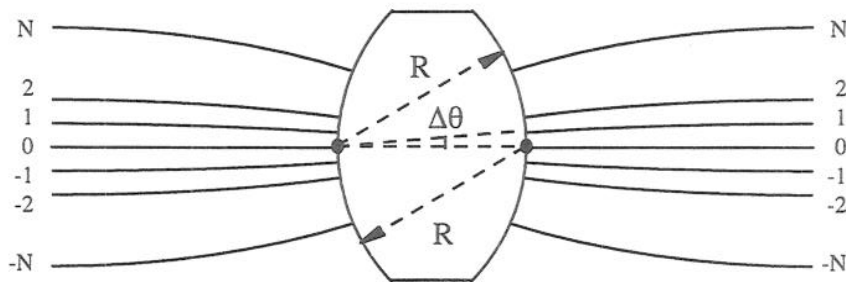

Figure 3.
4. Figure 3 shows a radiative star, which consists of a symmetric array of  $2N+1$  input and  $2N+1$  output channel guides separated by a planar guide with propagation constant  $\beta$  and curved boundaries of radius  $R$ . Adjacent ports are separated by an angle  $\Delta\theta$ .